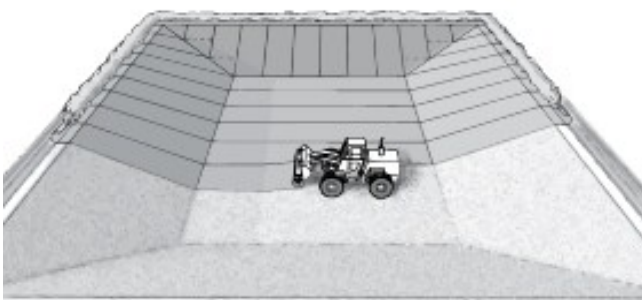

Fig. 6: Typical CETCO installation technique
2. Equipment which could damage the **Claymat GCL** should not be allowed to travel directly on it. Therefore, acceptable installation may be accomplished whereby the **Claymat GCL** is unrolled in front of backwards-moving equipment (Figure 6). If the installation equipment causes rutting of the subgrade, the subgrade must be restored to its originally accepted condition before placement continues.